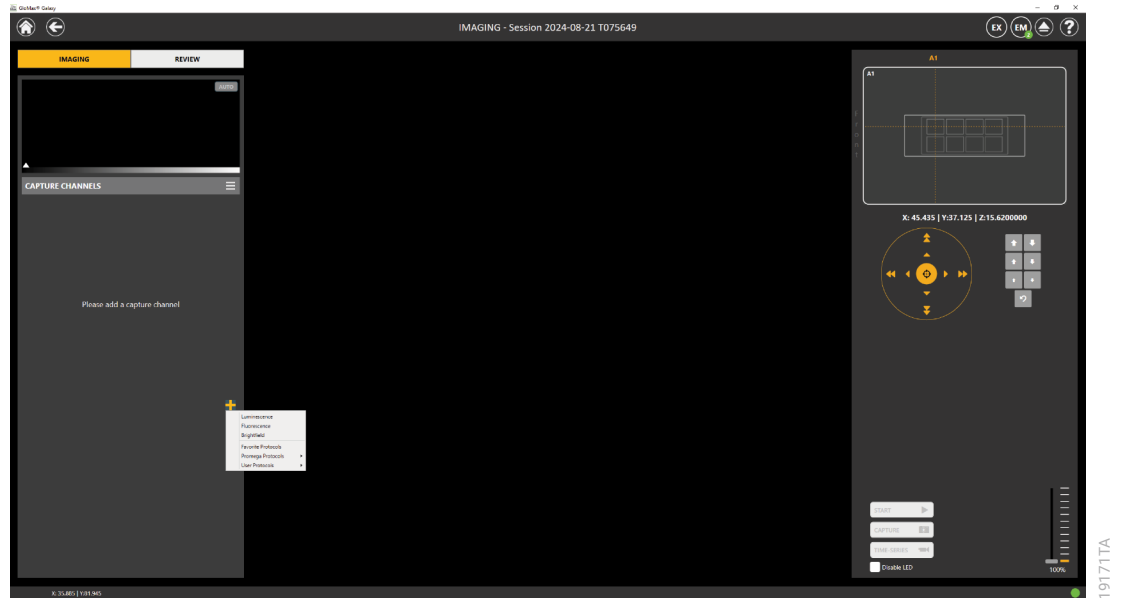
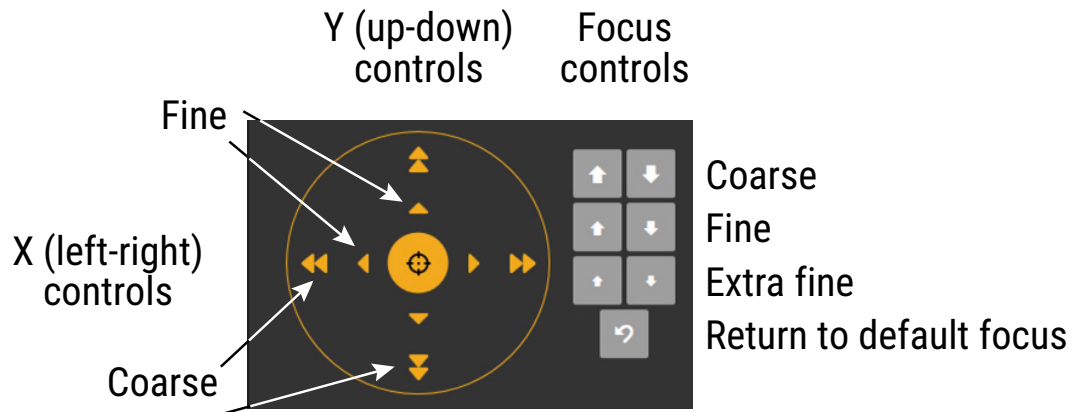

Figure 10. Adding a capture channel.
Figure 12. Navigation buttons.
- Select the yellow + in the left panel of the screen to add a capture channel. A new Luminescence, Fluorescence or Brightfield channel may be created, or an existing protocol may be selected (Figure 10).
8. Focus using the coarse, fine and extra-fine up and down arrow buttons (hover over these buttons to see the keyboard shortcuts). Select the vessel diagram (upper right in Figure 10) or use navigation buttons (Figure 12) to move the XY-stage to change the field of view. The  button returns the objective to the default starting focal position for a new imaging session.
Capture Channels are added and configured on the 'Imaging' tab during an active Imaging Session by selecting the **+** in the capture channels list (Figure 10). Options include Luminescence, Fluorescence and Brightfield.